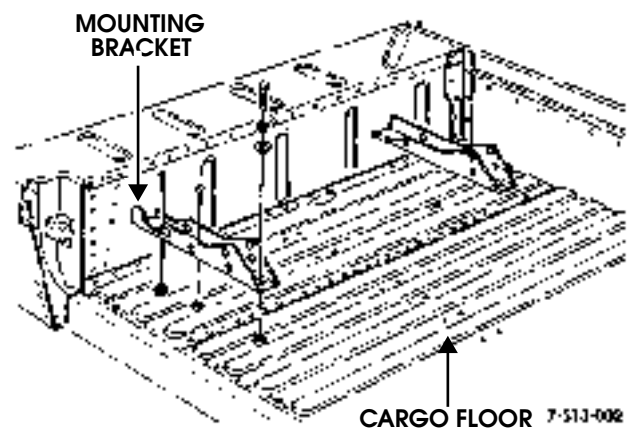

Figure 13-31: Mounting Bracket Positioning
6. Remove screws securing mounting brackets to cargo floor (Figure 13-31).
1. Install mounting brackets on cargo floor with washers, lockwashers, and bolts (Figure 13-31).